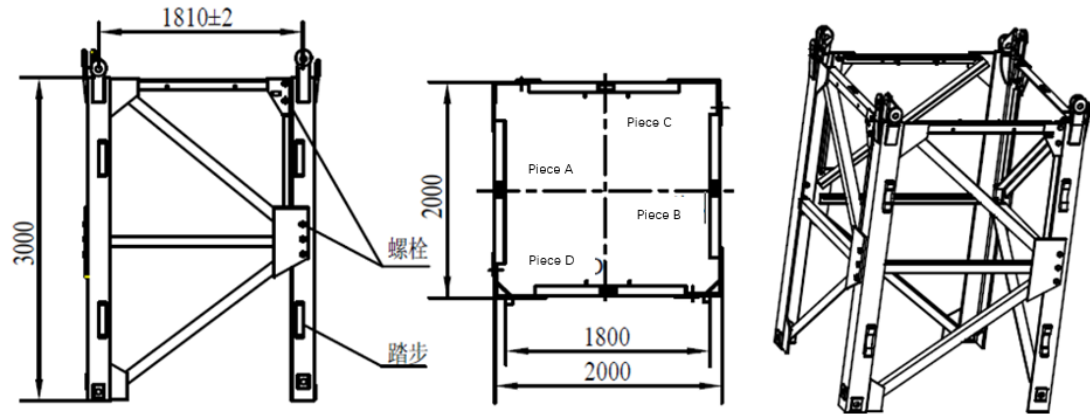

Fig. 4-2 Tower section structure L68A4
- Tower section L68A4 is Piece-type structure (see Fig. 4-2), each piece of the structure is assembled by dedicated bolts, the upper and lower pin holes are all $\Phi 55$. Tower section L68A4 can also be substituted by L68B6 /L68B6A.
- Tower section L68B7 / L68B7A are Piece-type structures (see Fig. 4-2), each piece of the structure is assembled by dedicated bolts, the upper pin holes are $\Phi 55$, the lower pin holes are $\Phi 65$.